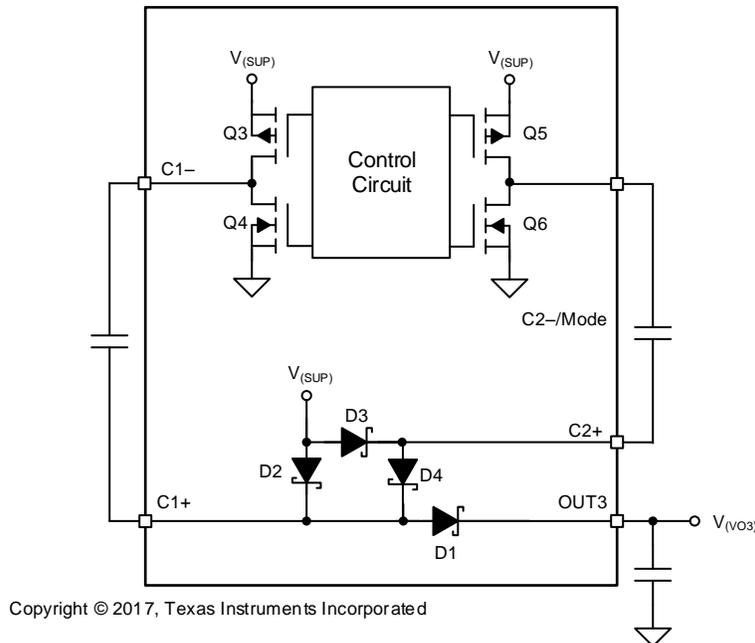

Figure 4. Tripler Positive Charge-Pump Circuit
If the application needs a higher voltage for V_{O3} than a doubler charge pump can generate, use the tripler configuration shown in Figure 4. Connect an additional flying capacitor between pins C2–/Mode and C2+.
- V_{O1} is the output voltage of the boost converter (shown as $V_{(\text{SUP})}$ in Figure 4)